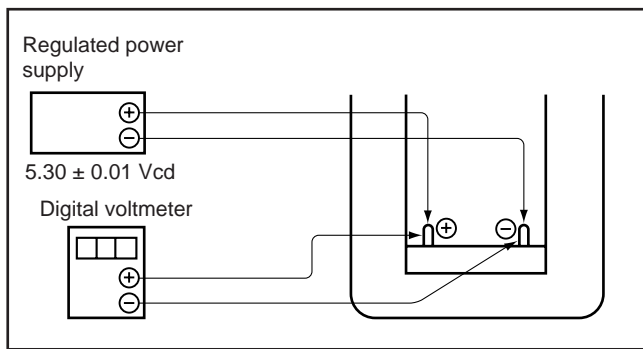

Fig. 5-3-4.
- 1) Connect the regulated power supply and digital voltmeter to battery terminals as shown in the figure 5-3-4.